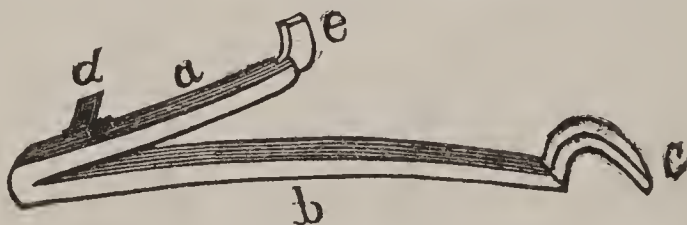

FIGURE 82.
*Nomenclature of the Mainspring.*—The mainspring, Fig. 82, consists of: *a*, the upper branch; *b*, the lower branch; *c*, the hook; *d*, the pivot; *e*, the catch which is sometimes called the tang.